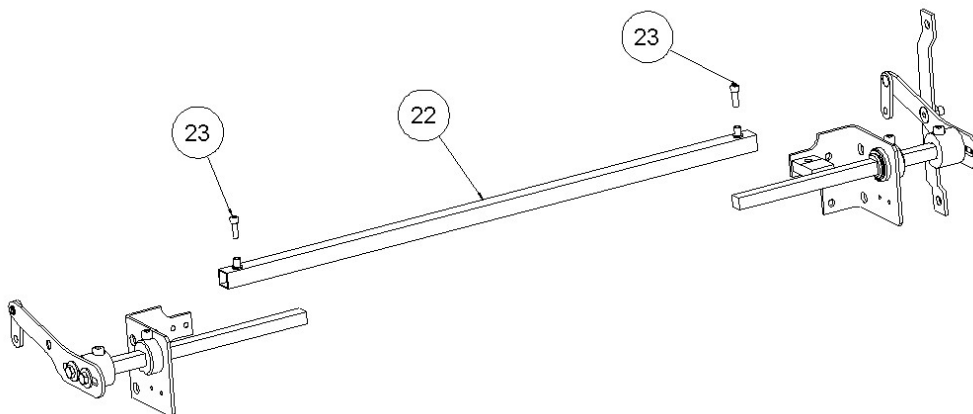

Figure. 6
The joined arms must be introduced in endings of the driving bar axle (22) and must be screwed through M6 x 20 DIN 912 screws (23). The width of the driving bar can be adjusted introducing more or less the arms into the axle - Fig.6-.